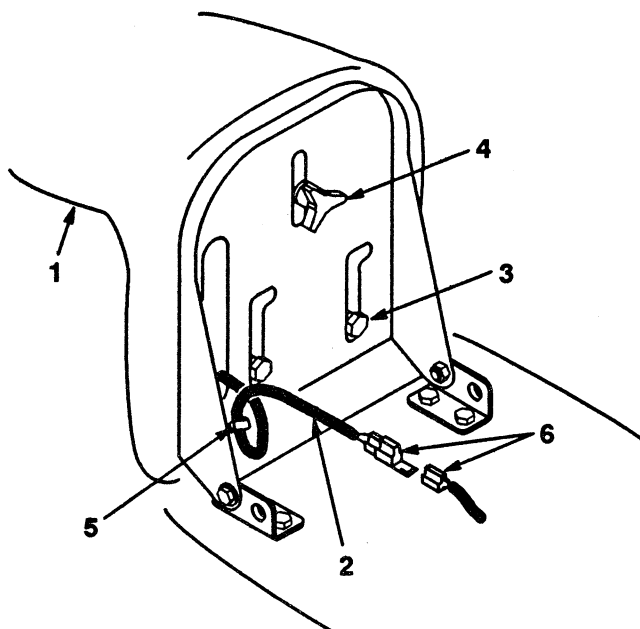

Figure 3
1. Insert seat switch wire cable through the hole in the seat base (Fig. 3).
2. Position the seat onto the seat base by inserting the two shoulder bolts through key hole openings at the end of both slots (Fig. 3).
3. Thread the knob and flat washer into the rear center hole in the seat (Fig. 3). Adjust the seat and tighten the knob.
4. Push the seat switch connector fully into the wire harness connector (Fig. 3).
5. Secure the seat switch wire cable to seat base with wire clip (Fig. 3).